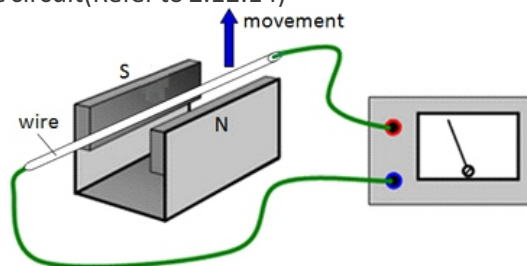

Fig. 2.12.14 Circuit Demonstrating Current Generation
The Figure above(Refer to Figure 2.12.14) shows the setup needed to do this activity. Follow the following steps:
3. Use Fleming's Right Hand Rule diagram(Refer to Figure 2.12.14) to determine the direction of the flow of current in the circuit(Refer to 2.12.14)